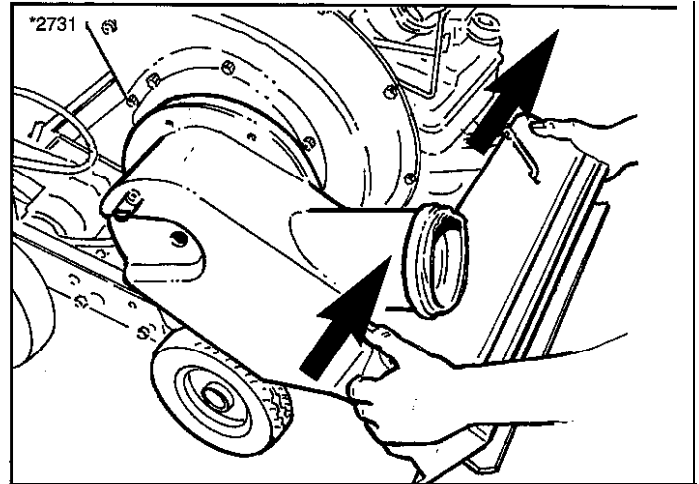

Figure 26. Remove Vacuum Nozzle Housing
10. Lift the vacuum nozzle housing away from the shredder housing and tilt it up slightly to clear the right front wheel as it is removed from the unit (Figure 26).
12. Using a 5/16" allen wrench or hex bit socket, remove the **capscrew** that secures the J hammer to the rotor. It may be helpful to use a short piece of 2 x 4 lumber to block the rotor while removing the **capscrew** (Figure 26).
13. Install the new J hammer with the bent lip facing out as shown in Figure 26. (J hammers on this unit cannot be turned over and reused.) Use new assembly hardware if the old hardware appears worn out or damaged. Replace the other J hammer in the same manner.